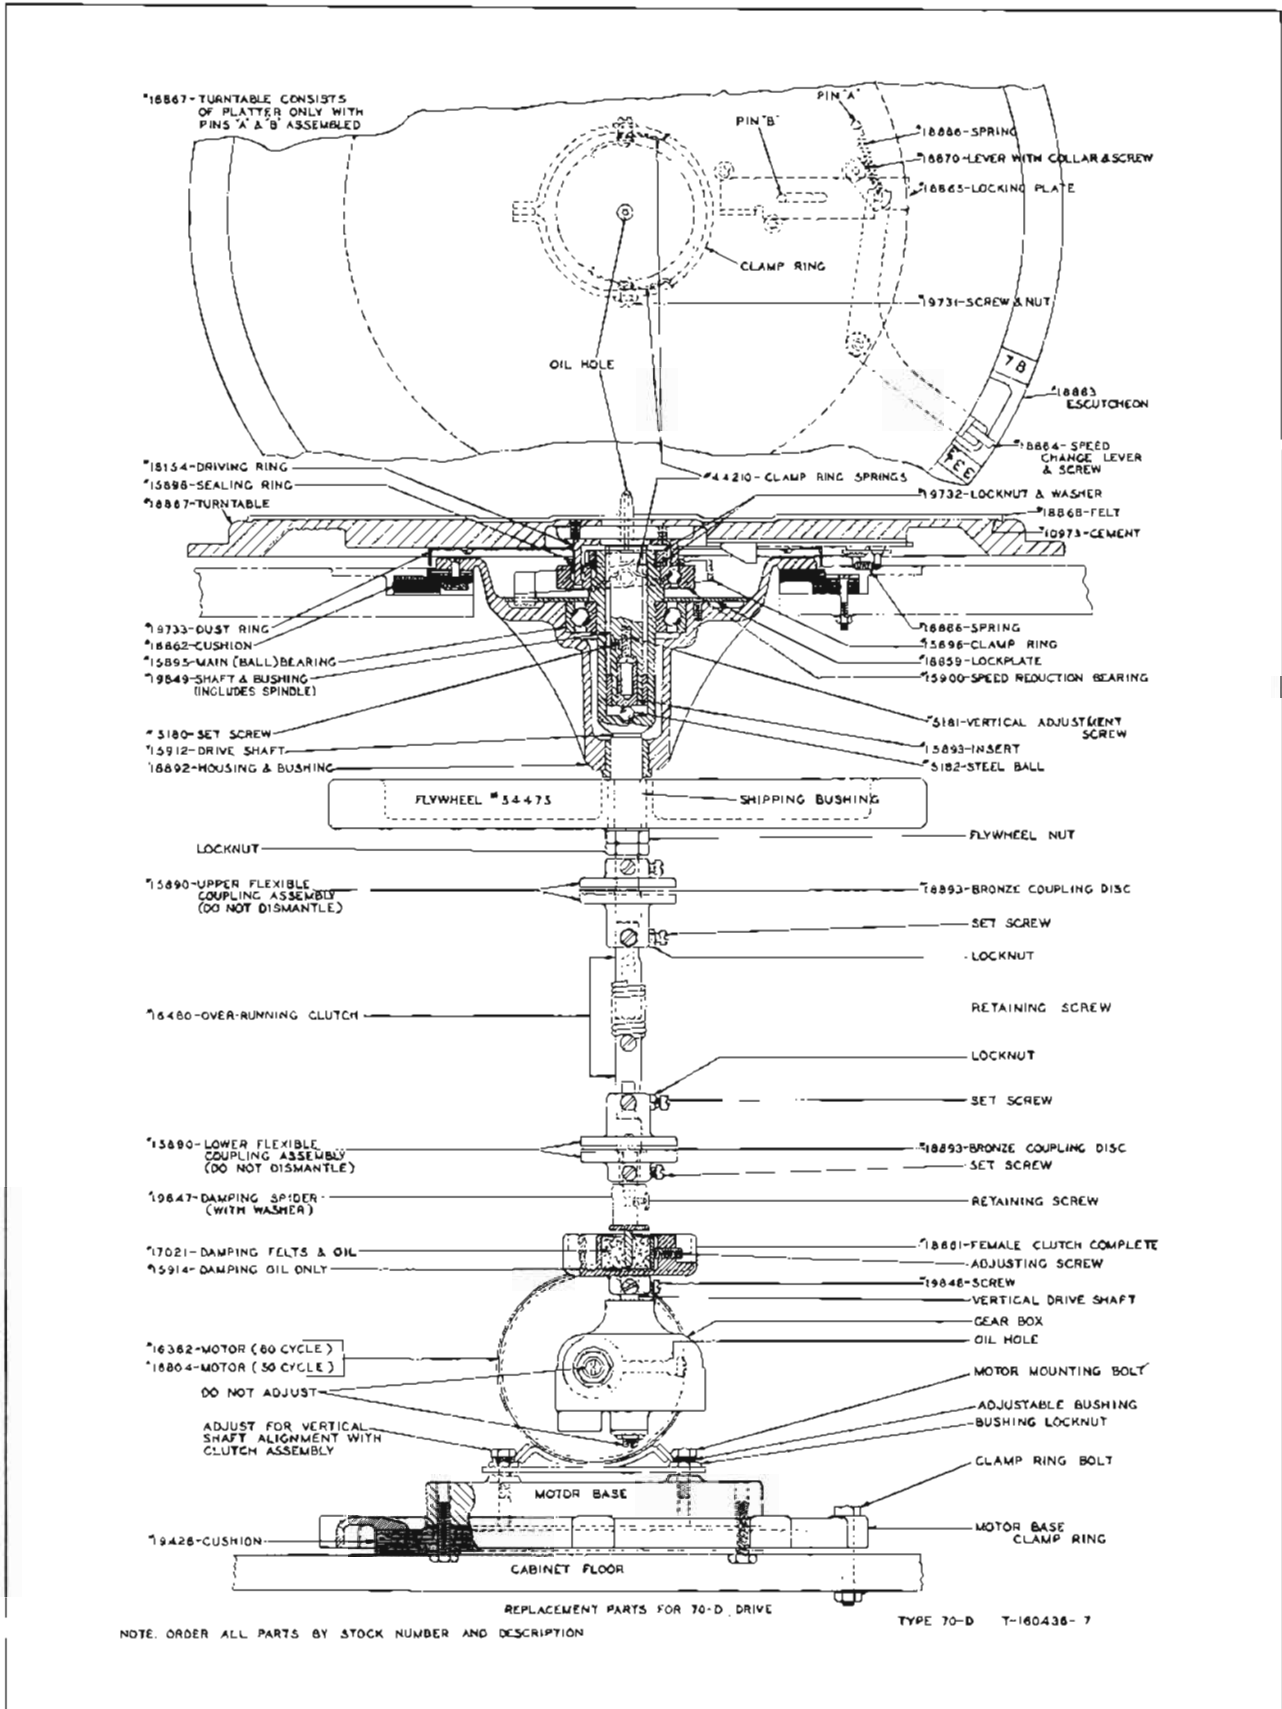

Figure 3--Turntable-drive assembly.
14. Refer to figure 3. Open the door of the cabinet by using the hand grip provided at the
17. Refer to figure 3. With the set screws and locknuts loosened, place the coupling shaft and flexible coupling assemblies in position at the drive assembly, slide the upper flexible coupling up on the flywheel shaft, and the lower flexible coupling down on the drive shaft. Space the couplings equally on the shafts and then tighten the set screws and locknuts. Note that the flywheel shaft and the short shaft projecting upward from the mechanical filter are "spotted" for the cone point set screws and that both ends of the coupling shaft are provided with "flats" for the accommodation of their respective set screws in the collars of the flexible couplings. Observe also that the coupling shaft consists of two members (male and female), the joint of which is concealed by the spring of the over-running clutch. The shaft should be replaced in such a manner that the retaining screw of this spring is toward the bottom of the shaft. Be sure that the two members
19. The mechanical filter (cup-like receptacle above the motor) includes two adjusting screws which, when tightened, cause movable plates to compress the felt cushions which form a part of this filter. As shipped from the factory, these adjusting screws are loosened an amount such that proper pressure is obtained when the screws (see figure 3) are tightened six turns. At this point the felt cushions should be firm but not hard.